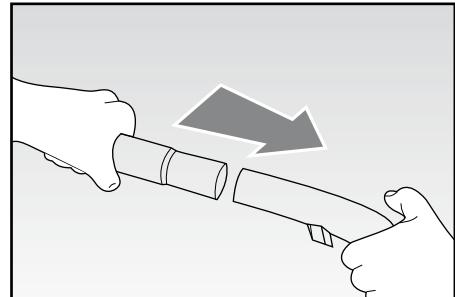

Fig. 3
- Insert the telescopic tube (Q) into the handle (Fig. 3).